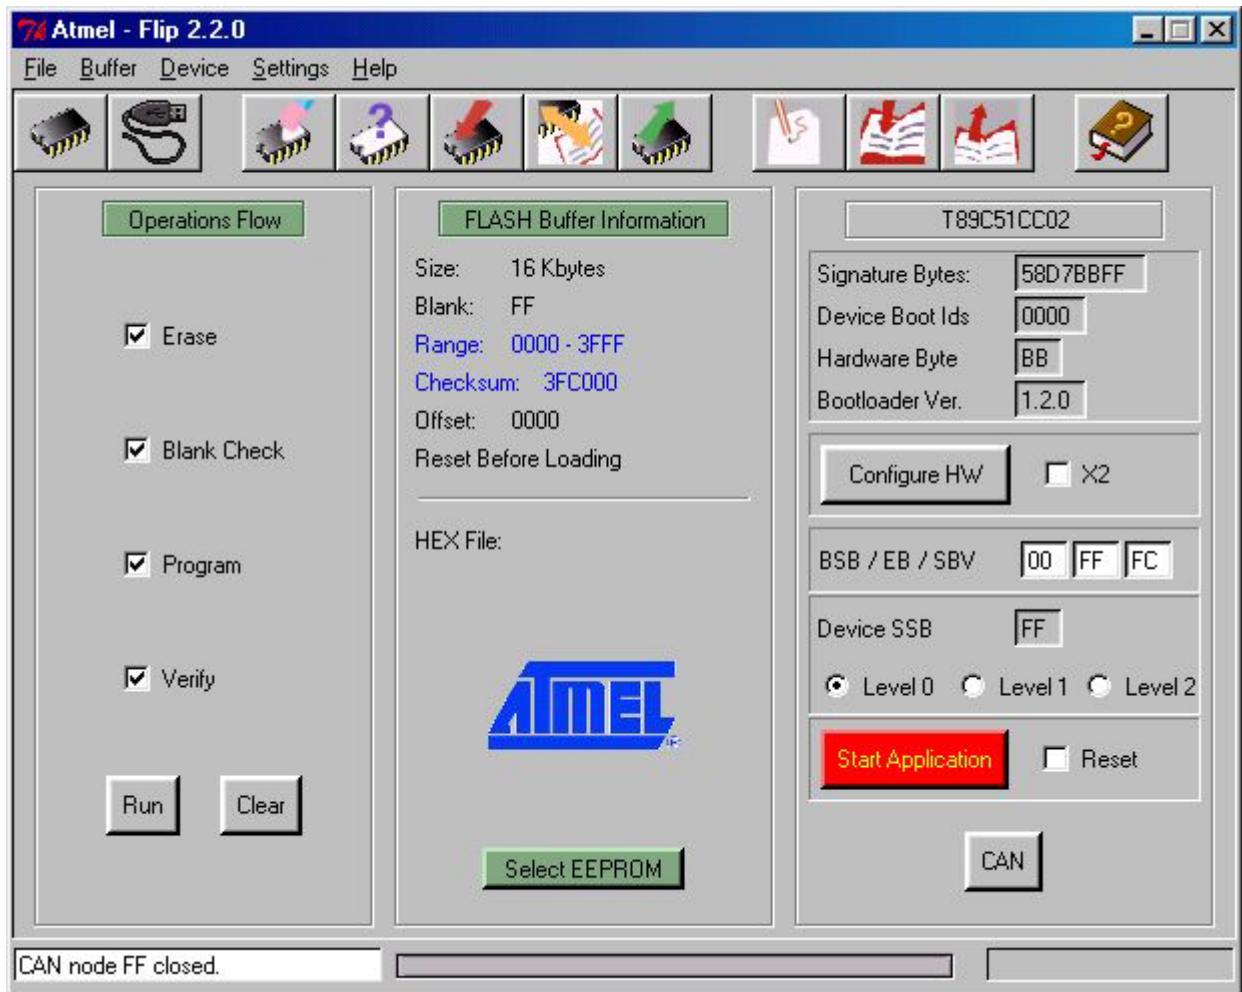

FIGURE 24: FLIP SETTINGS WINDOWS (3 OF 3)
- B9) Make sure that text boxes in the frame "AT89C51CC02" fill with text, like in figure 24.